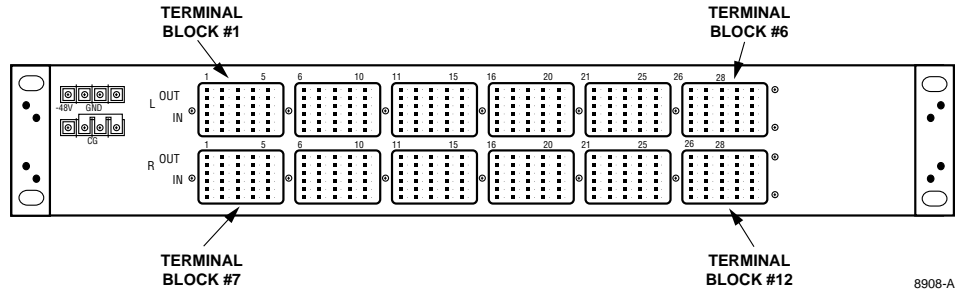
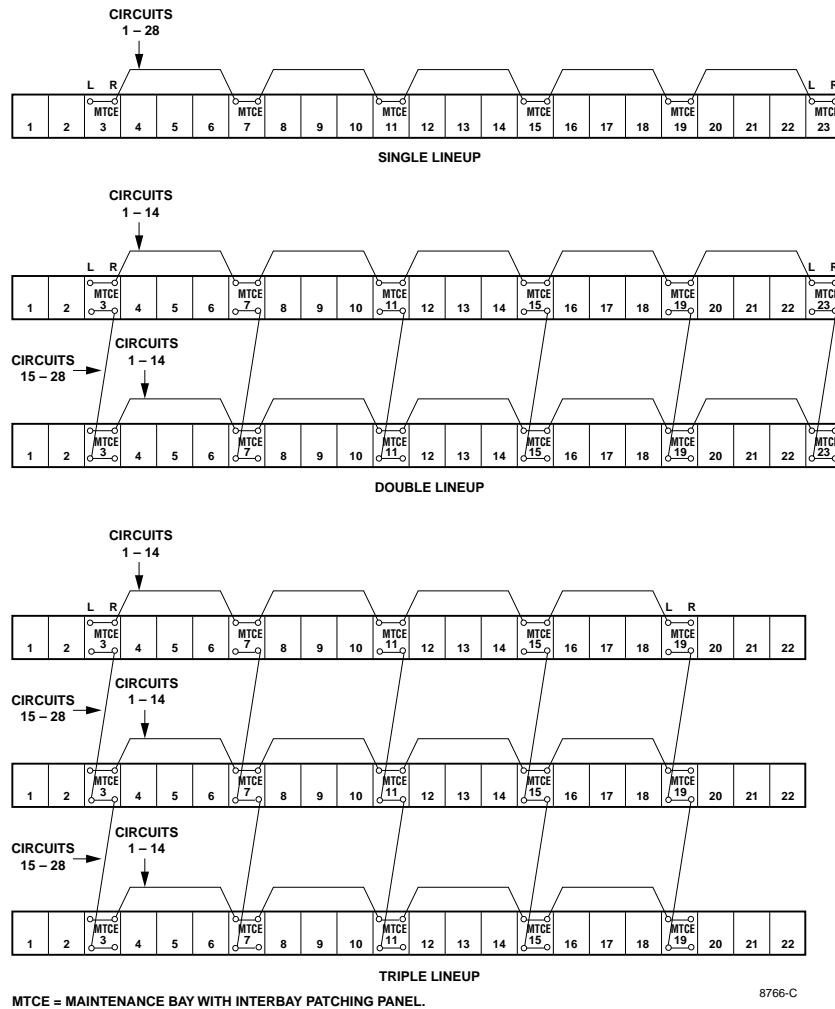

Figure 9. Typical Rear View of Bantam 28 Circuit Interbay Module
Figure 10. Typical DSX1/1C Bay Arrangement Showing Interconnection Wiring
4.06 Interconnect all Interbay Modules, using tie cables to wire-wrap terminals at the back of each module. Specific wire-wrap terminals are defined on each installation drawing. A typical installation drawing is shown in Figure 9. Interbay Patch Modules are normally located in every fourth bay of DSX-1 and DSX-1C systems as shown in Figure 10.
4.07 Inter module cabling is shown in Figure 10. In single lineups, corresponding circuits 1 through 28 on each Interbay Patch Module are multiplied. In double and triple lineups, corresponding circuits 1 through 14 on each module are multiplied in each lineup, and corresponding circuits 15 through 28 on each module are multiplied between lineups.